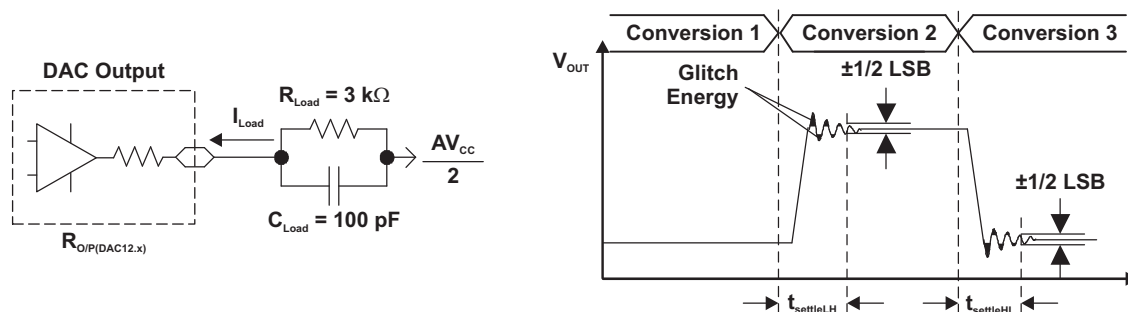
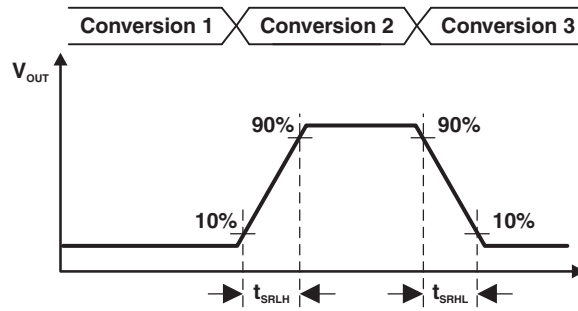

Figure 19. Settling Time and Glitch Energy Testing
Figure 20. Slew Rate Testing
V_{REF} = V_{CC}, DAC12IR = 1 (see Figure 19 and Figure 20), over recommended ranges of supply voltage and operating free-air temperature (unless otherwise noted)
- (1) R_{Load} and C_{Load} connected to AV_{SS} (not AV_{CC}/2) in Figure 19.
- (2) Slew rate applies to output voltage steps ≥ 200 mV.